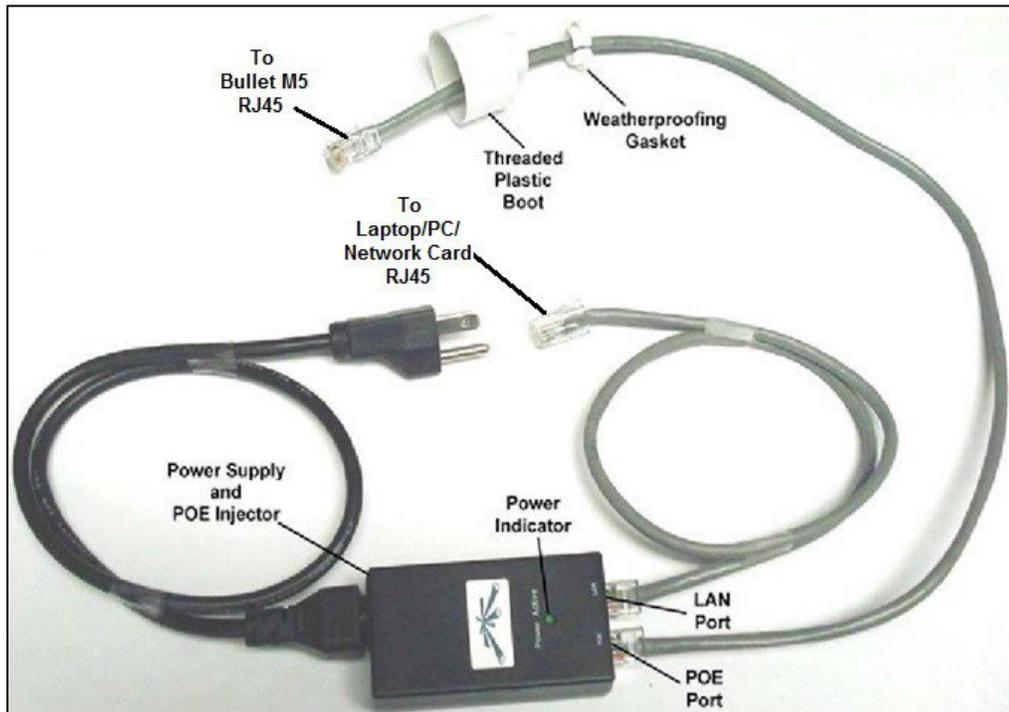

Figure 2. Power Supply/POE Injector and Patch Cables
Figure 2 illustrates the kit components used in conjunction with the Bullet M5 to make up one end of a wireless network connection. Ubiquiti recommends the use of their grounded power supply integrated with a POE injector to eliminate ESD (electrostatic discharge) attacks, which can damage Bullet M5. Ubiquiti recommends
1. From the power supply/POE injector (Figure 2, STS part number 256684), run a patch cable from the LAN connector to the PC/laptop LAN port.